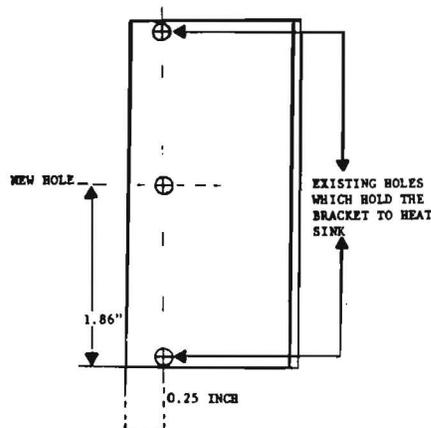

FIGURE 1
4. Using a 3/16 drill bit, drill a hole as shown in Figure 1.